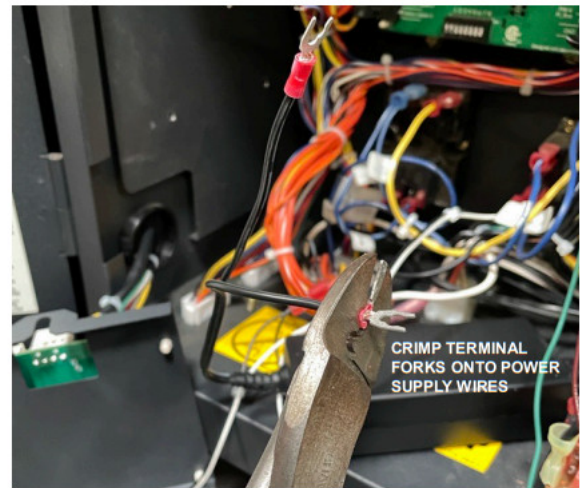

Figure 4. Crimp Terminal Forks to Power Supply
6. Cut the new power supply cable approximately 1 ft. from the power box. Strip each wire approx. 3/8". Install supplied terminal forks onto each stripped wire. (See Figure 4.)